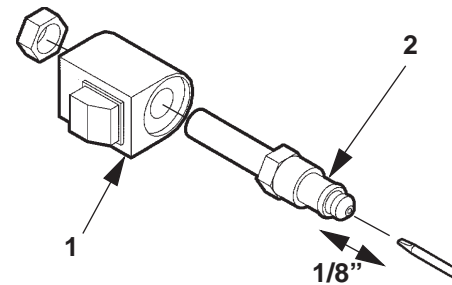

FIG. 78-2
3. Check if Solenoid Valve is getting power by holding a screwdriver against the top nut of the Solenoid. Push Control Switch to "**LOWER**" position to energize solenoid (**FIG. 78-2**). A good solenoid will attract (magnetically) the screwdriver to the nut and make it difficult to pull the screwdriver away from the nut.
4. Check the Valve Stem by removing the Coil Assembly (**Item 1, FIG. 78-2**). With platform supported, unscrew the Valve Stem (**Item 2, FIG. 78-2**) from the Pump. Push on the plunger located inside the Valve Stem by inserting a small screwdriver blade in the end. If the Plunger does not move freely (approximately 1/8") replace the Valve Stem.